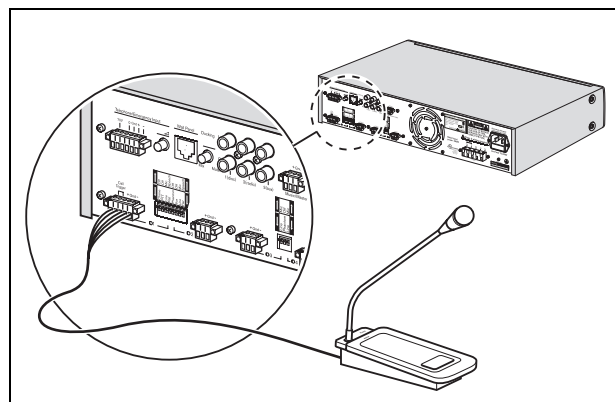

figure 4.1: Euro connector with trigger
- Euro connector with trigger. See figure 4.1.